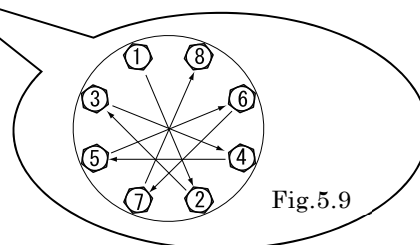

Fig.5.9
- Tighten the bolts gradually in a diagonal sequence with even torque. <Fig.5.9>